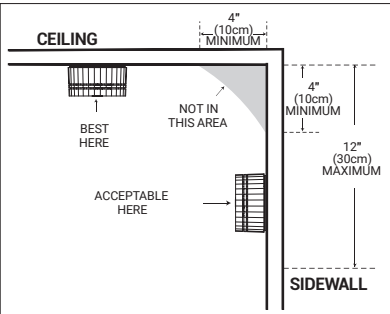

Figure 1
- Installing on the ceiling is recommended, but you should locate it at a minimum of 4inches (10cm) away from the side wall. (See Figure 1)
- When installing the alarm on the wall, a distance of 4-12inches (10-30cm) should be kept below the ceiling.(See Figure 1)